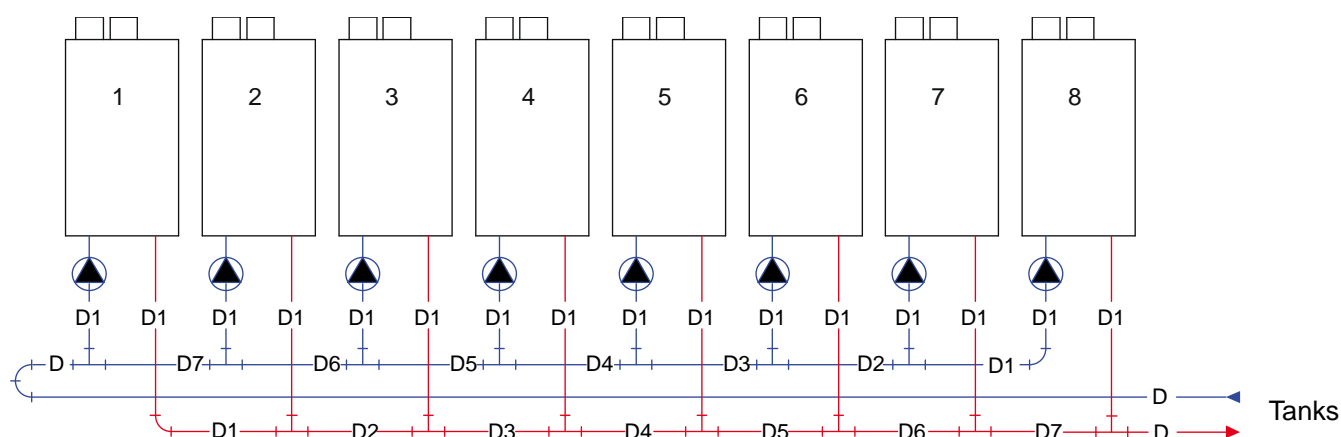
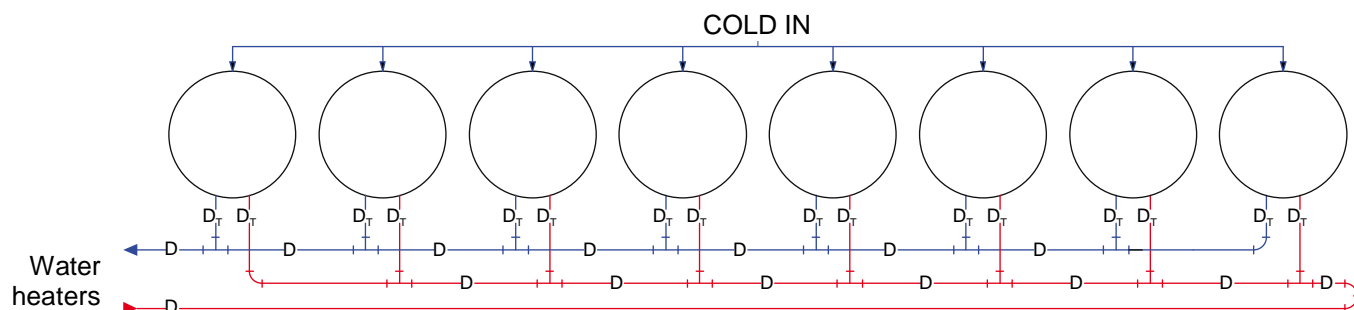

Figure 9.1 Pipe encoding water heaters' side
Figure 9.2 Pipe encoding tanks' side
To use the tables in a straightforward manner, water heaters are numbered and pipes are encoded in this manual. Connect all water heaters and tanks according to the scheme below (Tichelmann system). Then by definition, water heater-1 is the one that, along the hot water pipes, is situated the furthest away from the tanks (see figure 9.1 below).
In figure 9.1 and figure 9.2 all codes can be found, for explanation see next page →
Numbering according to figure 9.1, page 45:
**Tables: all codes according to figure 9.1 on page 45.**
The numbers in the tank table are **diameter × wall thickness (mm × mm)** of the connecting pipe to each tank (DT in figure 9.2 on page 45): table see next page →